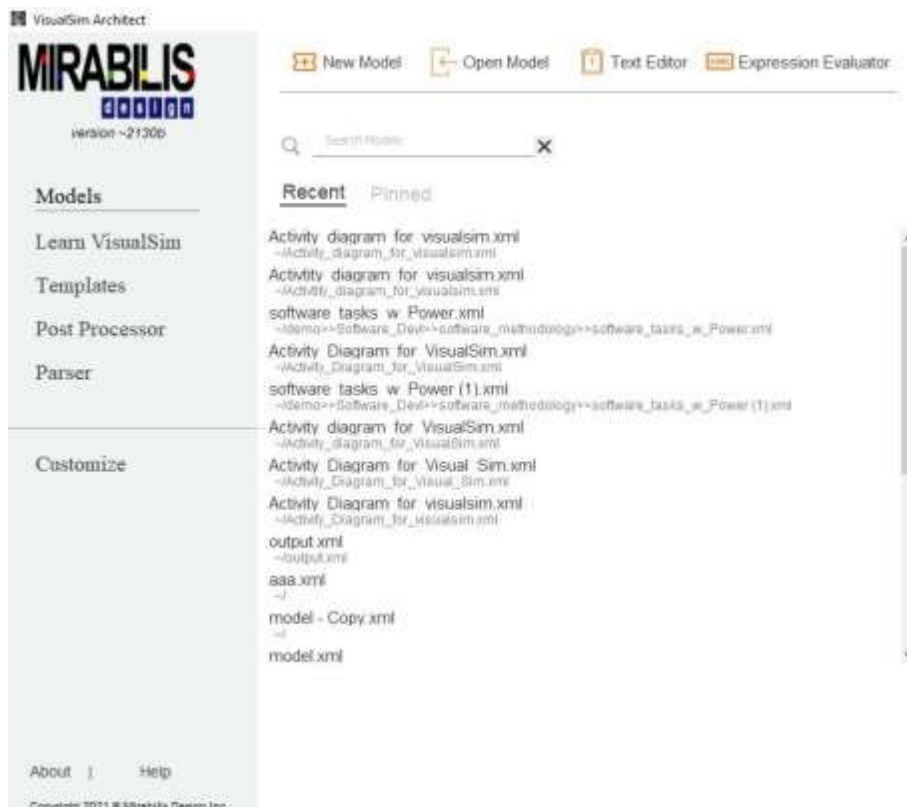

Fig 13: VisualSim
Step 3: Open the VisualSim. As shown in Fig 13.